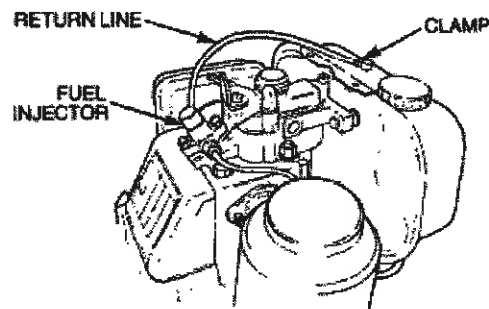

Figure 6 Fuel Return Hose
- a. Remove the clamp securing the injector fuel return hose to the fuel tank (Figure 6).